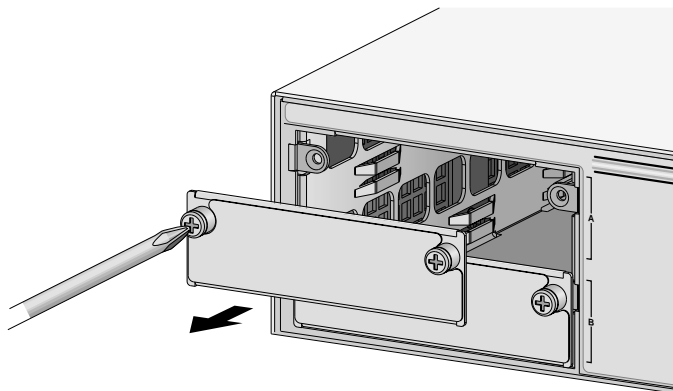

Figure 3-15 Removing the Blank Panel
2. Remove a blank faceplate from one of the expansion slots on the front of the switch by unscrewing the faceplates two captive screws. Refer to Figure 3-15. Do not remove the blank faceplate if you are not installing an expansion module in the slot.